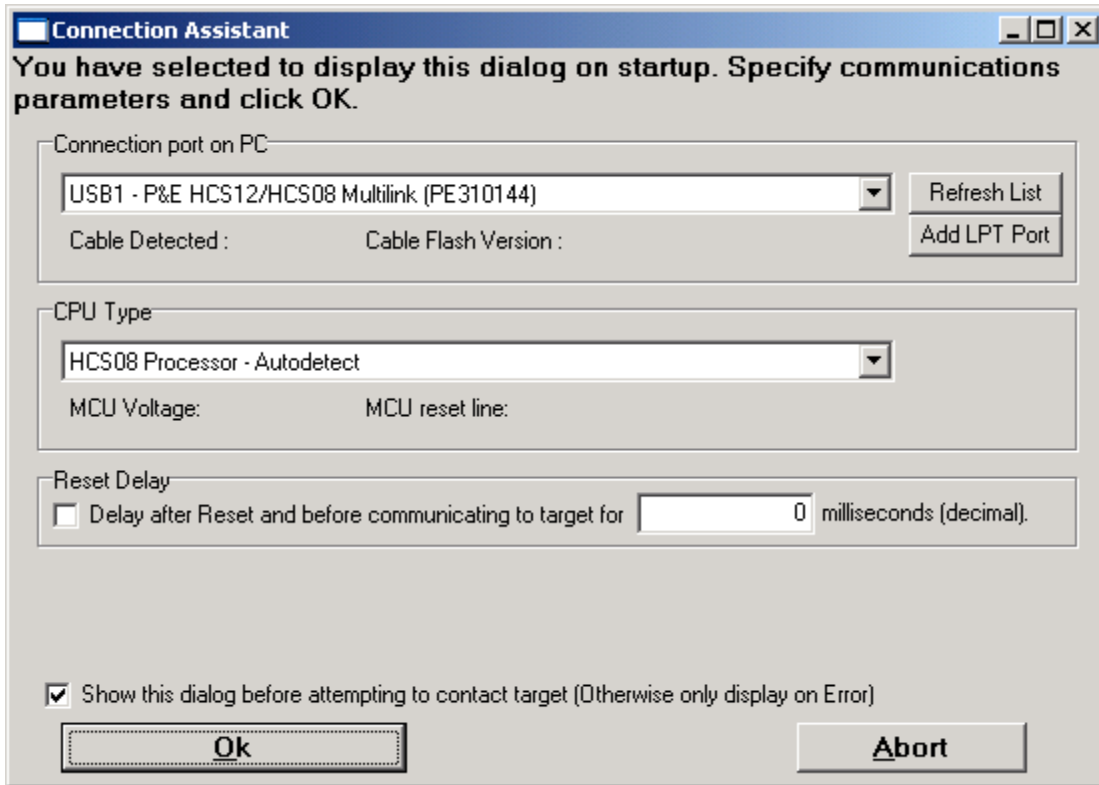

Figure 17 Connection Assistant Window
- The “Connection Assistant” window appears where you can select the debugger interface connection. As shown in Figure 17, a USB connection was chosen and the HCS08 was selected as the CPU type. Click the “OK” button.